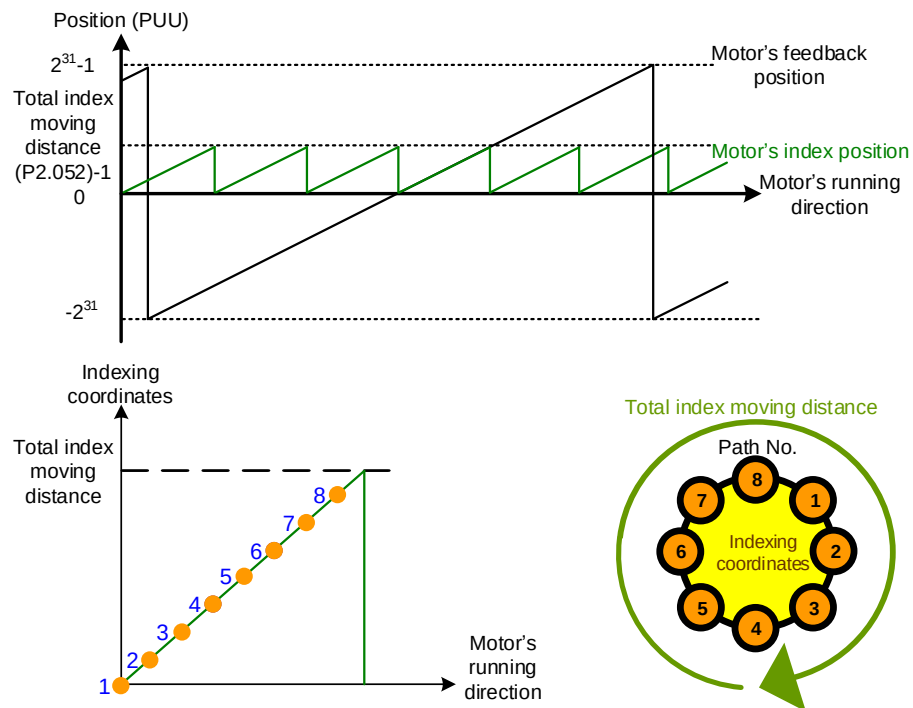

Figure 7.1.3.6.1 PR mode indexing coordinates
- DIR sets the rotation direction with options of forward rotation (always runs forward), reverse rotation (always runs backward), and the shortest distance. The movement is illustrated in Figure 7.1.3.6.4.